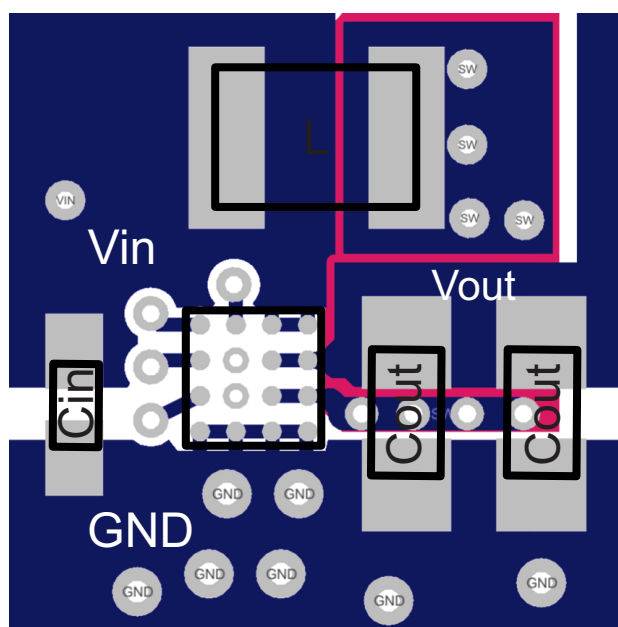

Figure 65. Suggested Layout (Top)
- Place the output capacitor(s) as close as possible to GND and V_{OUT} , as shown in Figure 65.